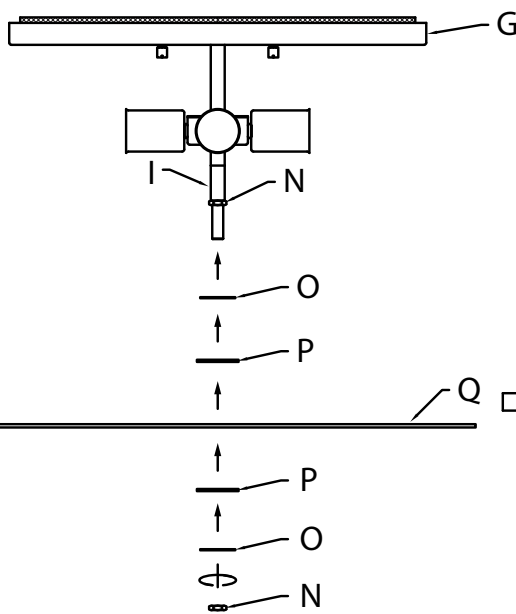

Fig. 2
- Pass one steel washer [O] over threads on center tube [I], then pass one rubber washer [P] over threads on center tube (Fig. 2).